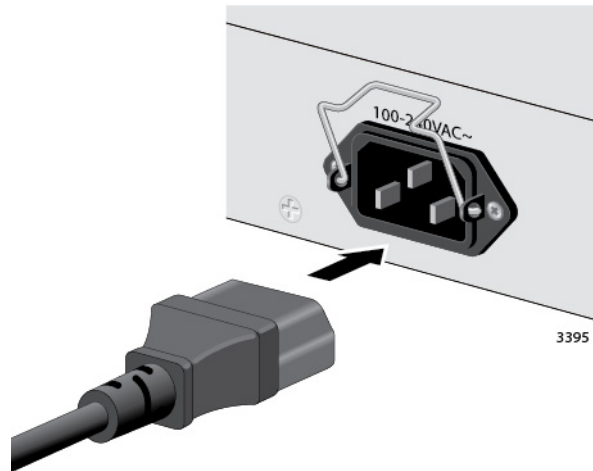

Figure 43. Plugging in the AC Power Cord
1. Power on the switch you want to be assigned ID number 1 by connecting its power cord to the AC connector on the back panel and to an appropriate power source. See Figure 43 on page 90. Refer to “Power Specifications” on page 114 for the power specifications of the switches.
Connect the power cords to the connectors on the back panels and to the appropriate power sources, as shown in Figure 43 on page 90. Refer to “Power Specifications” on page 114 for the power specifications of the switches.